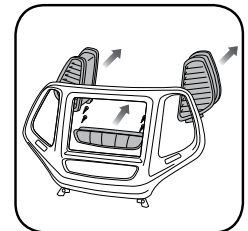

Fig. 1.8
- Transfer the air vents and the hazard button from the factory radio bezel to the aftermarket. If the vehicle is a model that does not have the hazard button bar on the radio bezel, use the blank provided with the kit to fill the space. (Fig. 1.8)